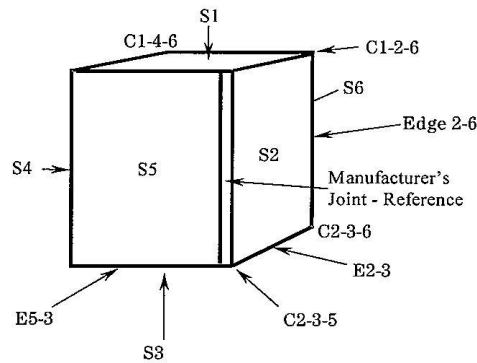

Figure 1.11.1.01 Packaged drop surface
4. The packaged is dropped once on each of the following Figure1.11.1.01